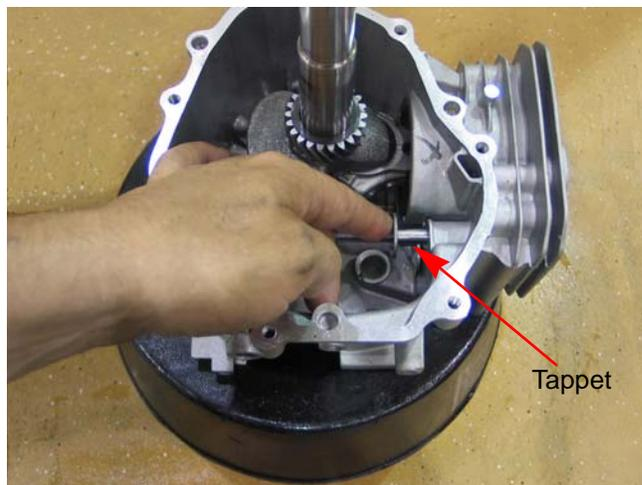

Figure 10.27
5. Install the valve tappets. See Figure 10.27.